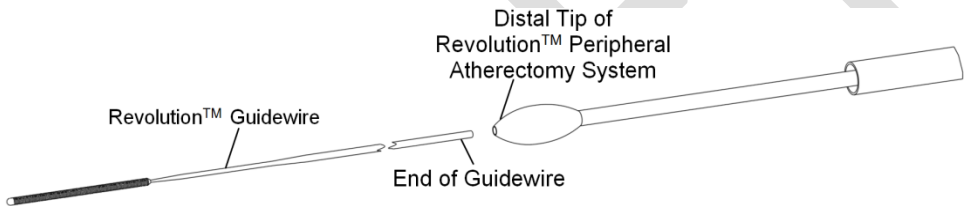

Figure 7: Load device onto the Revolution™ guidewire
4. Insert the proximal end of the Revolution™ guidewire into the distal tip of the device until the guidewire is through the proximal end of the Revolution™ Peripheral Atherectomy System as shown in Figure 7.